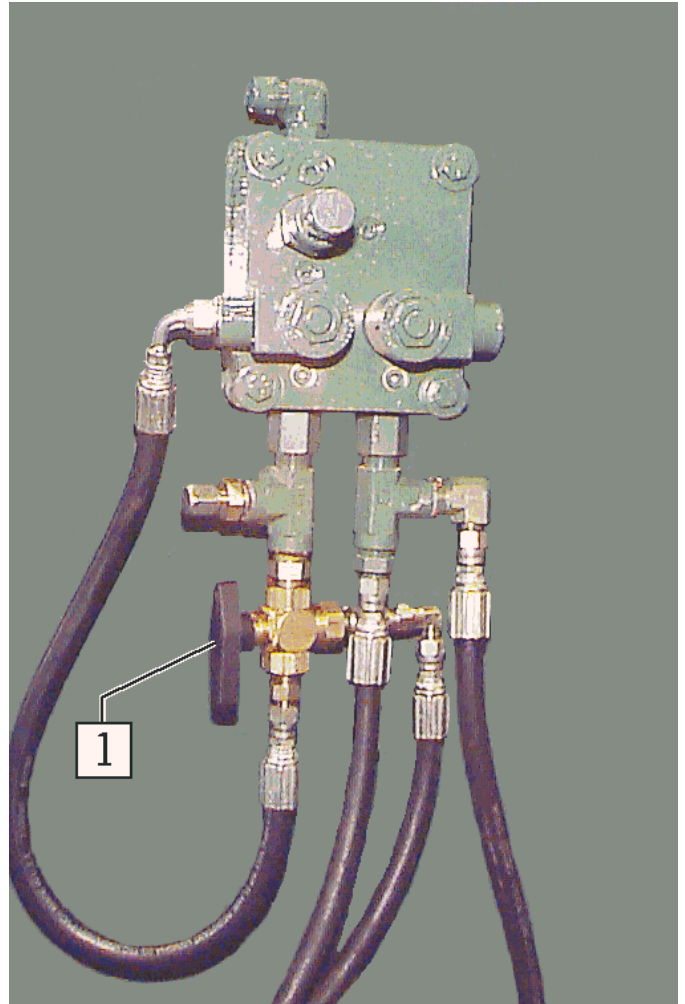

Fig. 3-6a Auxiliary 2 Manifold (located behind electrical panel)
DO NOT leave brake release valve (item 1, fig. 3-6a) in DOWN position.